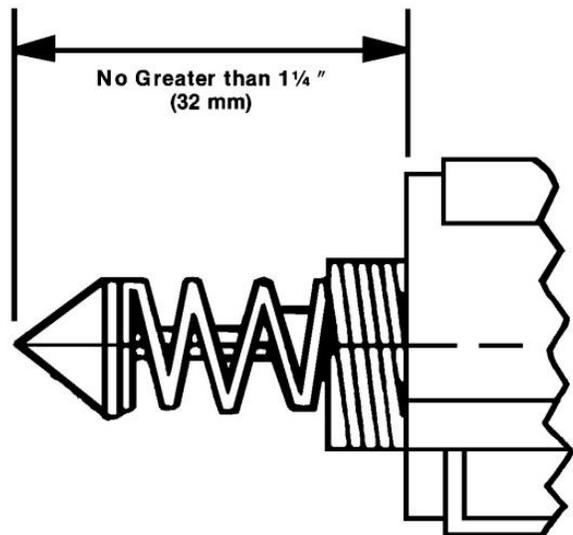

Figure 1
**NOTICE:** Before installing new idle air control assembly, measure the distance that the conical valve is extended (see Figure 1). Measurement should be made from motor housing to end of cone (distance should be no greater than 32mm). If the cone is extended too far, damage may occur to the motor when installed. If necessary, push on the end of the cone, until it is in retracted position.